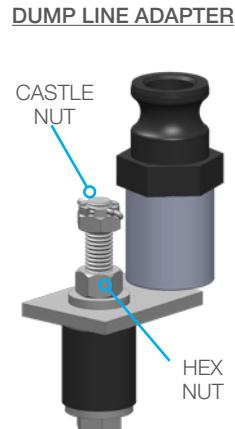

FIGURE 59.1
2. Loosen the Hex Nut on the Expansion Plug with a 3/4" wrench. (**Figure 59.1**)